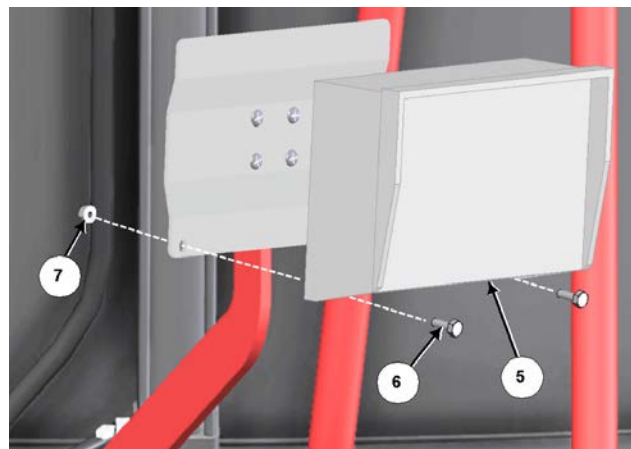

Figure 2: Fasten Display to the Mount Bracket
3. Fasten the display (5) to the mounting bracket, as per **Figure 2**.
- a. Fasten with 2 of ¼" x ¾" hex bolts (6) and ¼" flange lock nuts (7).